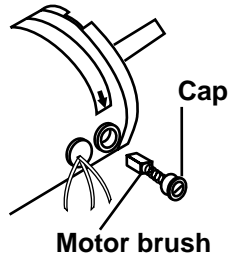

Figure 2. Brush Replacement
4. Remove the two rubber caps (**see Figure 2**), then carefully unscrew each brush cap on opposite sides of the motor. Withdraw the brush, and examine it for wear.